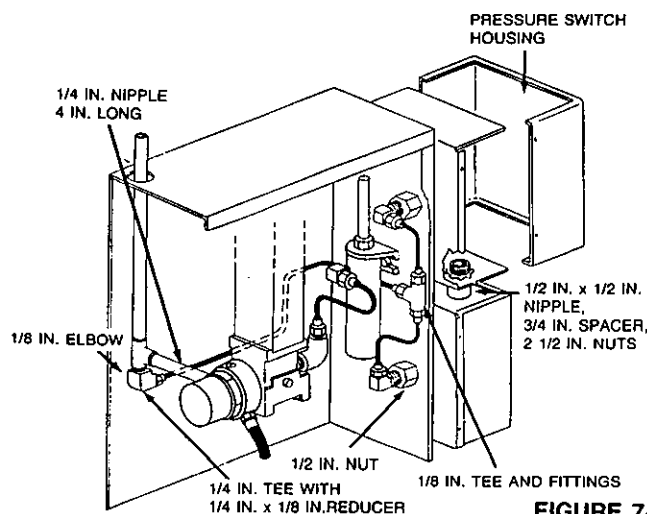

FIGURE 74
If two pressure switches are required, preassemble the switch enclosures using a 1/2 x 1 1/2 in. pipe nipple, 3/4 in. long spacer, and conduit nuts. The pipe nipple can be used as a wiring chaseway. See Figure 74.
4. For single-tank systems, install a 1/8 in. reducing fitting in the top outlet of the regulator; double-tank systems require an additional 1/4 in. nipple (4 in. long) and a 1/4 in. tee for installation to the expellant gas piping. Attach remaining 1/8 in. fittings as required to facilitate piping requirements for each pressure switch that will be used. See Figure 74.